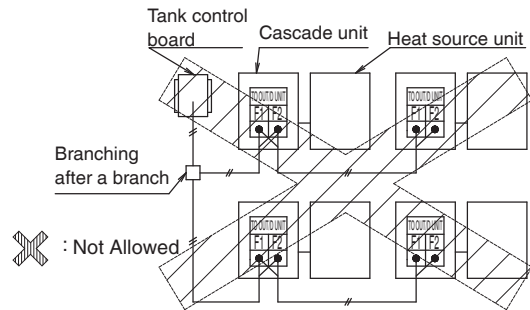

Fig. 3
- Branching after branching is not possible (refer to Fig. 3)